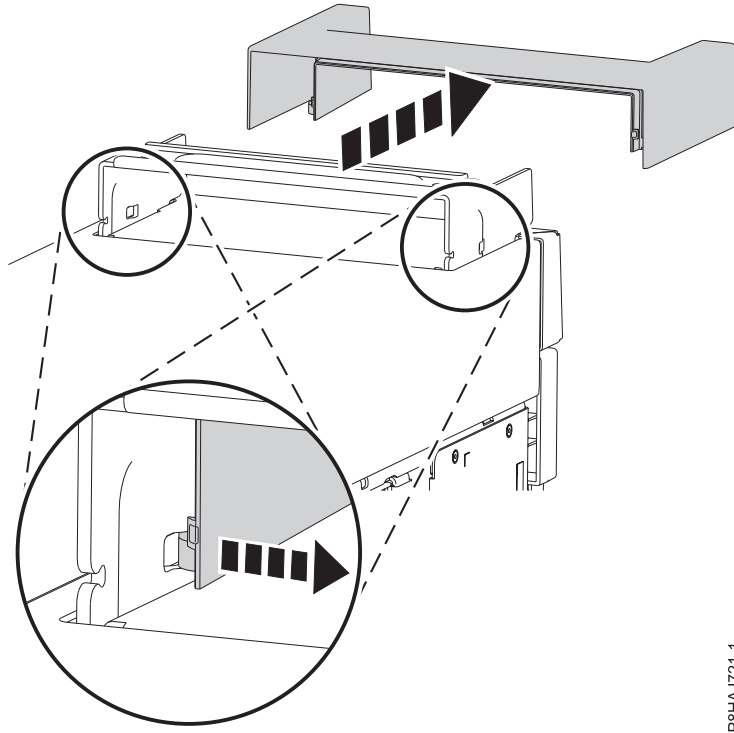

Figure 18. Removing the handle cover from an 8286-41A stand-alone system
3. Remove the handle cover by sliding it toward the front of the system then lifting upwards. See Figure 18 on page 37.